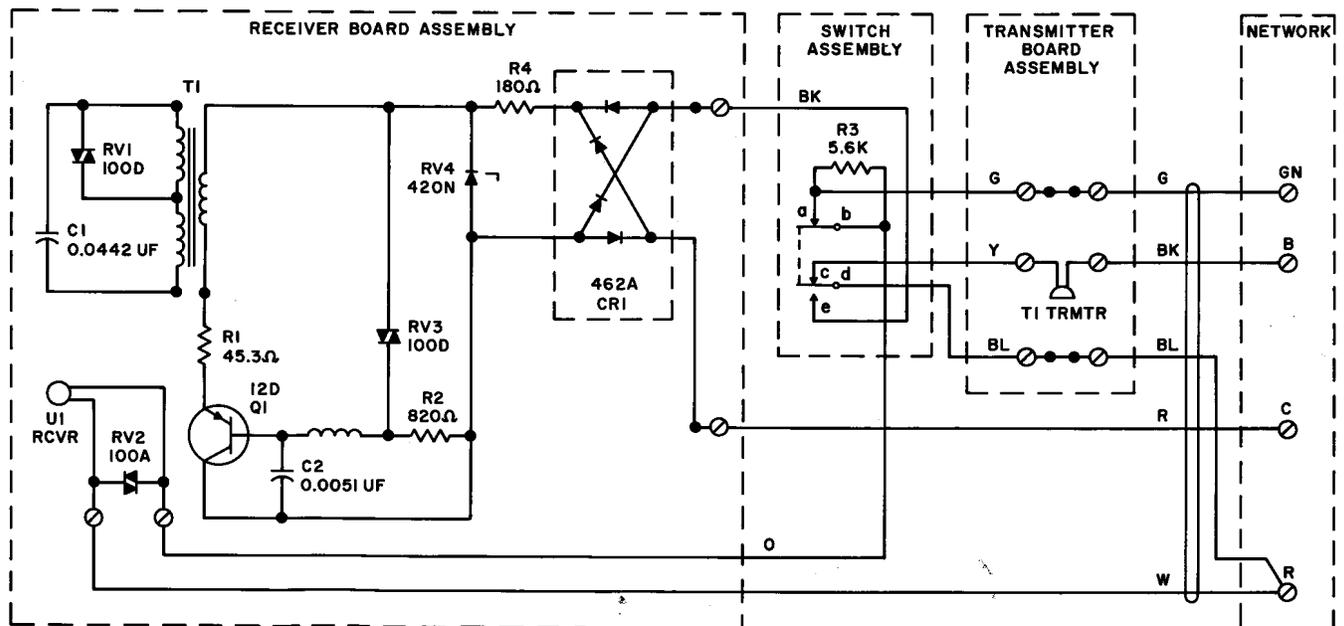

Fig. 3 — J1A Handset, Connections
- 2.03** The telephone set at the predesignated number is referred to as the control point telephone. This telephone must be equipped with a J1A handset. Connect per Fig. 3. For complete description of the J1A handset see Section 501-210-104.